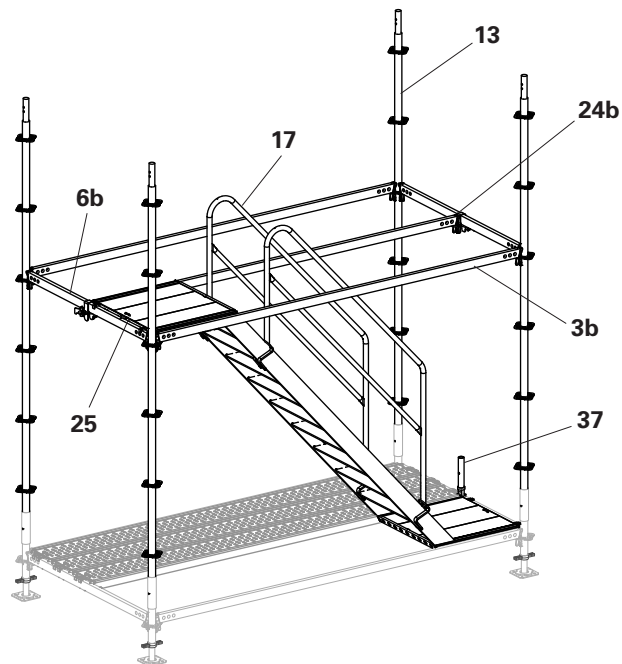

Fig. B10.06
3. Remove Staircase UAS-2 (25), Stair Guardrails UAG (17).
4. Remove the Horizontal Ledgers UH-2 300 (3b), Ledgers UH-2 150 (6b), Ledger Brackets UHA Half (24b), Standards UVH-2 300 (13) and UH Spigot-2 (37). (Fig. B10.06)